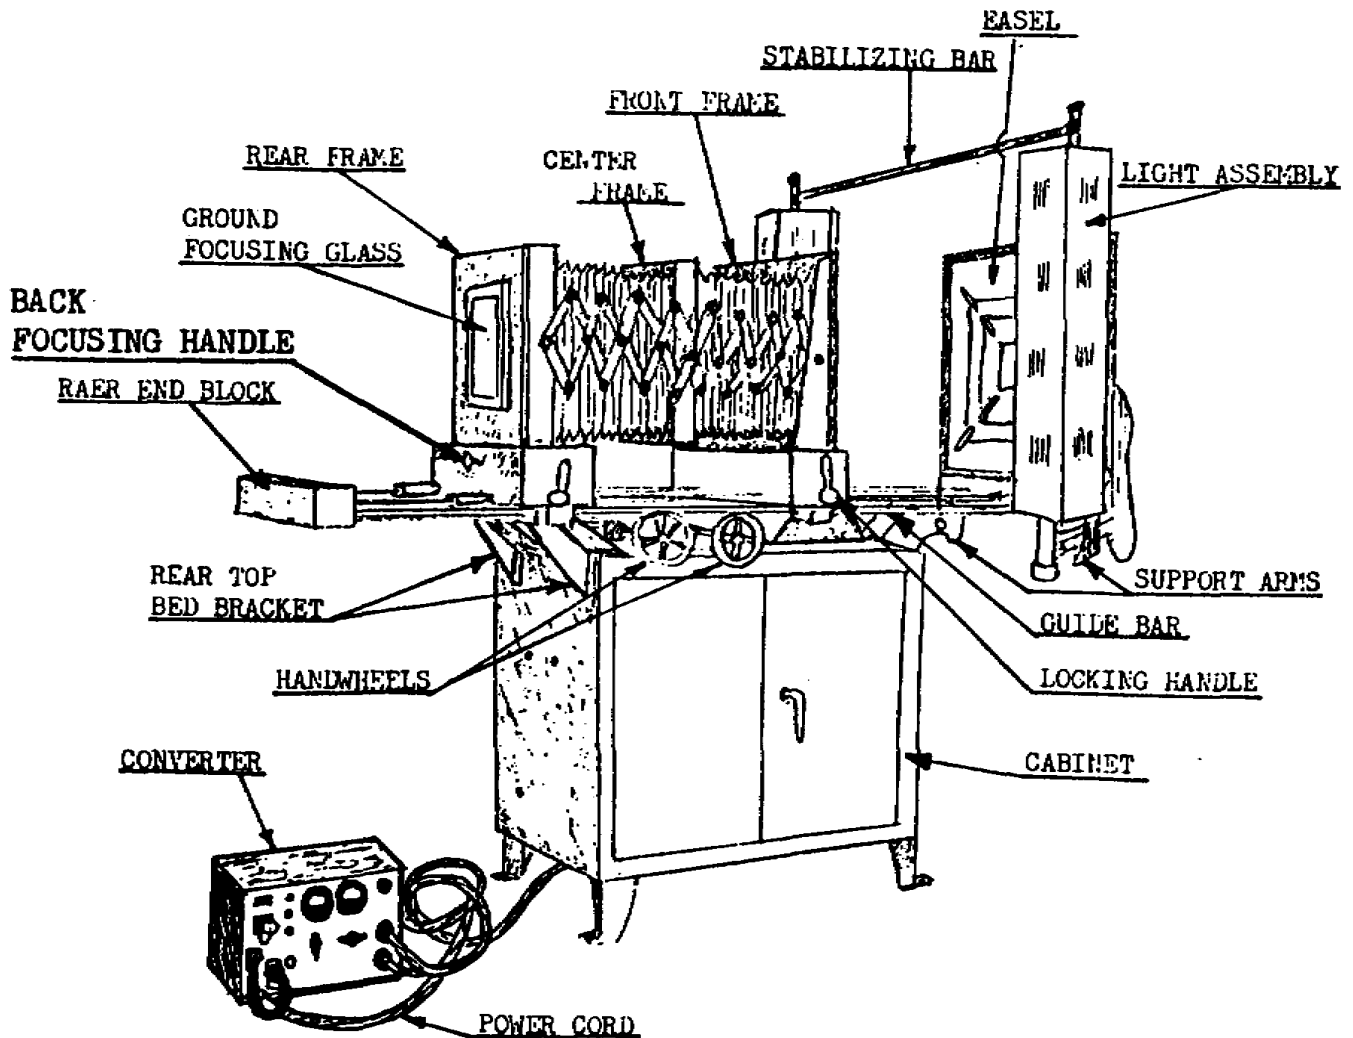

FIGURE 14. Camera set, set up for horizontal operation, right-rear view.
d. Move the locking handles on the carriages backward to release the carriages (figure 14).
e. Rotate the front handwheel (clockwise or counterclockwise as required) until the image on the ground focusing glass (figure 14) is approximately the size desired.
f. Rotate the rear handwheel (figure 14) or the camera (clockwise or counterclockwise as required) until the image on the ground focusing glass (figure 14) is coarse focused. Rotate the back focusing handle (figure 14) until the image is sharply focused.
26. (Ref. figure 14) After you have placed item to be copied in the easel and the lens is open to the widest f/stop, which parts of the camera must you operate in order to FOCUS the image on the ground glass? (select best answer)
(1) Position your head in front of the lens assembly (figure 14) and study the illumination of the item to be copied.
(2) Readjust the light assemblies (para 2-5b) to produce an even illumination with no glare or hotspots.